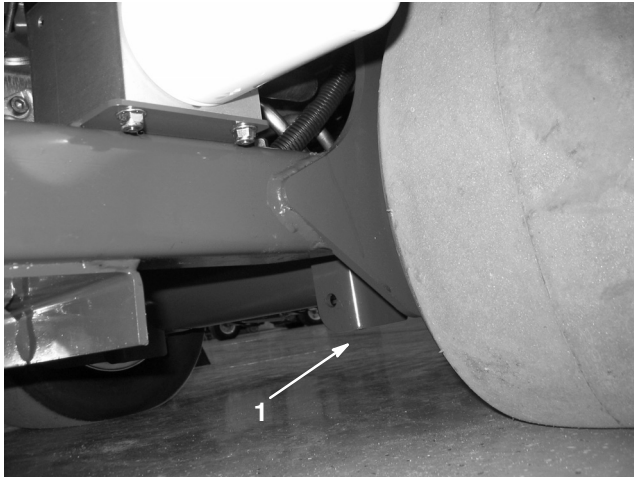

Figure 41
2. Place the jack securely under the frame plate just inside of the rear wheel (Fig. 41).